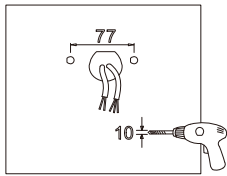

Figure 21
- Step 1: Using a drill (not provided), drill holes on the wall as shown below. (Figure 21)